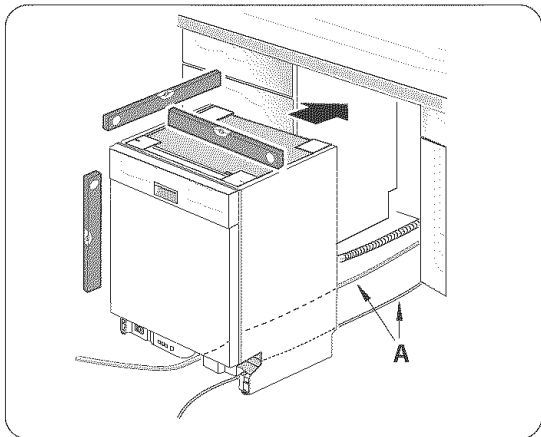
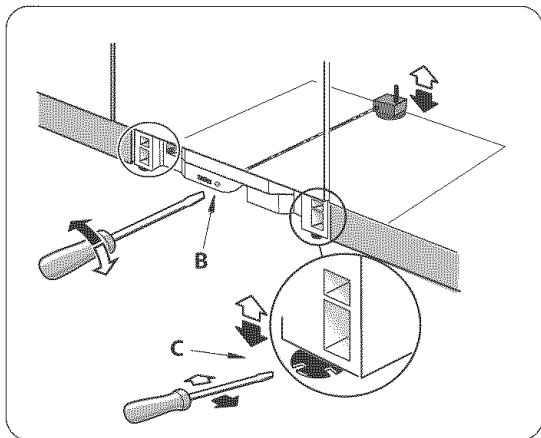

Figure 19
Figure 20
- 2) Position the dishwasher close enough to the enclosure so that you can run the dishwasher drain hose to the under sink drain connection. Make certain that the hot water supply line and the electrical supply cable are in their channels under the dishwasher base, as shown in Figure 19, letter A.
- 4) Perform a level check as shown in Figure 19. Adjust the rear leveler by turning the center screw at the front of the dishwasher, as shown in Figure 20, letter B. Turning the screw clockwise raises the rear of the dishwasher. Adjust the front levelers by turning them with a screwdriver, as shown in Figure 20, letter C. Turning the levelers to the right raises the dishwasher. If additional height is needed, shims may be added under the leveler feet.